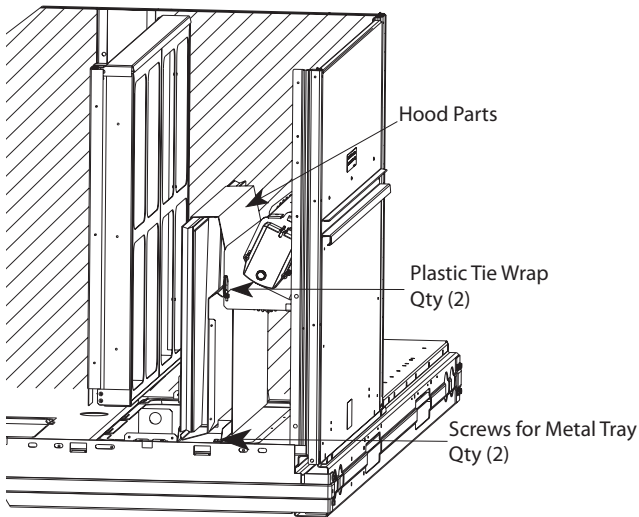

Fig. 12 — Two-Position Damper Hood Package Location
3. Locate the (2) screws holding the metal tray to the basepan and remove. In order to remove the screws, it may be necessary to remove the panel underneath the two-position damper. Remove the two screws. Locate and cut the (2) plastic tie-wraps securing the assembly to the damper. (See Fig. 12.) Be careful to not damage any wiring or cut tie-wraps securing any wiring.